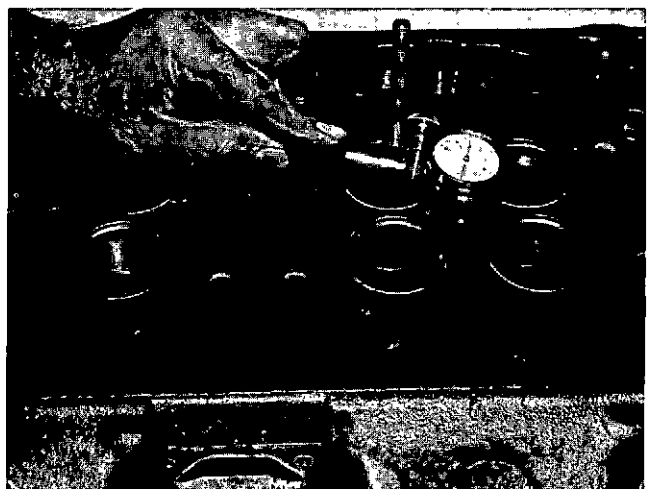

Fig. 2-1-8, V40217. Measure injector tip protrusion
b. Measure tip protrusion with dial indicator as shown in Fig. 2-1-8. Injector cup tip should protrude 0.040 to 0.055 inch [1.0160 to 1.3970 mm] beyond cylinder head milled surface. Maximum allowable protrusion is 0.065 inch [1.6510 mm].
f. Insert checking tool into injector sleeve bore and press down until tool seats firmly on injector seat area in head (sleeve). Fig. 2-1-8.